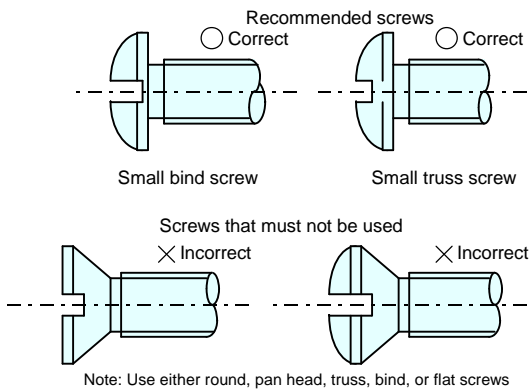

Fig. 7.10 Classification of recommended screws and those that must not be used.
- 2) Avoid using countersink screws, which add abnormal stress to devices (Fig. 7.10).